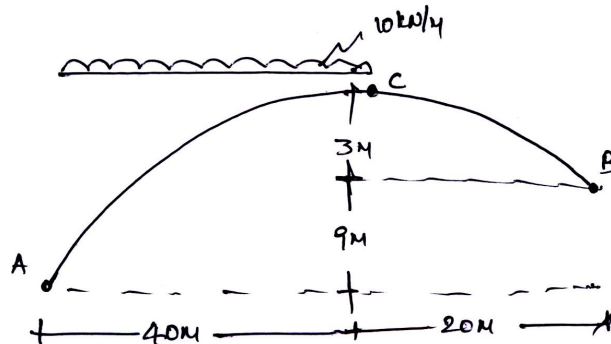

Fig.Q10(b)
- b. The three hinged parabolic arch of span 60m is loaded as shown in Fig.Q10(b). Find the bending moment at point 'P' which is located at 20m from the left support.